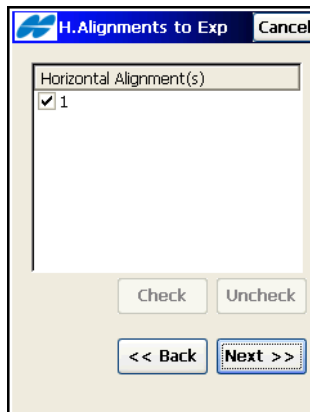

Figure 4-33. Select Horizontal Alignments
- **Next** – opens the *H.Alignments to Exp* screen to select alignments (Figure 4-33).
- *Roads to Export* for Alignments (Figure 4-33 on page 4-28 which is similar to this one)
- *X-Sections to Export* for X-Sections (Figure 4-33 on page 4-28) which is similar to this one)